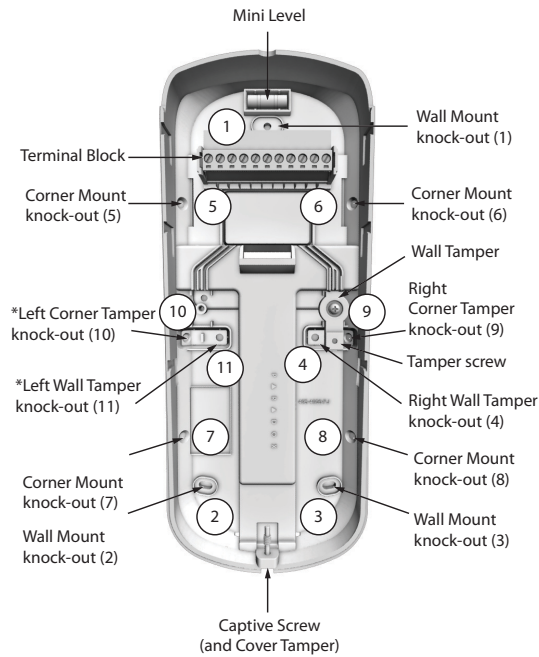

Figure 2: NVX80 Back Cover Components
- Prepare the back cover for a wall-mount installation by drilling out the appropriate knock-out holes (see Figure 2).
- Using a screw, secure the tamper switch to the back cover. (see Figure 2, "Tamper screw")